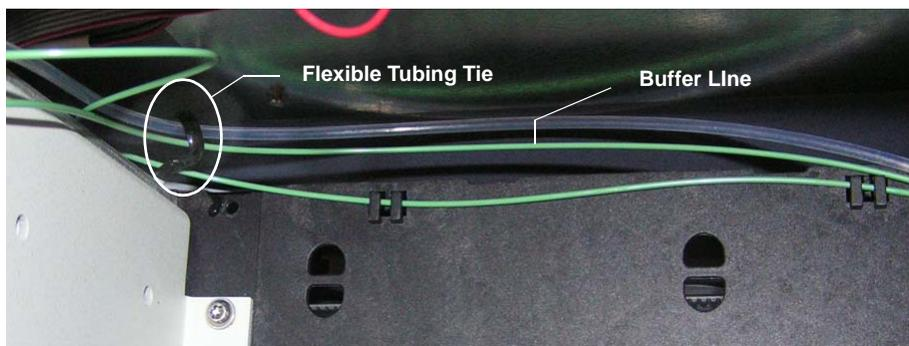

Figure 5-19. Tubing Tie in Upper-Left Corner Inside the Dionex AS-AP
4. Remove the buffer tubing from the flexible tubing tie in the upper-left corner of the autosampler (see Figure 5-19). To open the tie, pull the end of the tie down.